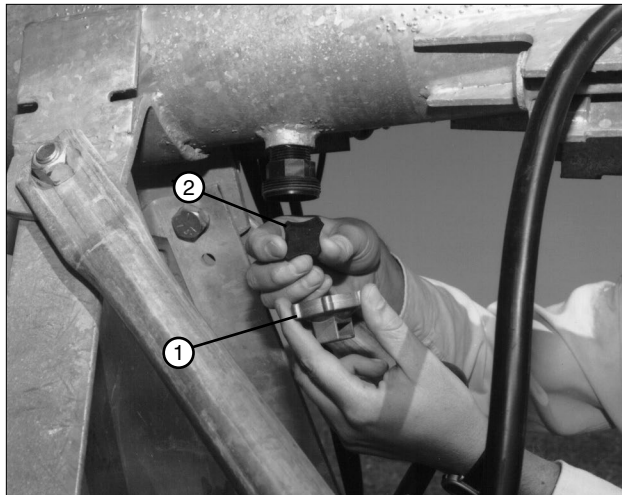

Figure 38-1 1. Drain
1. Remove span pipe drain and seal. Mark the drain side of seal for reference later. Clean sand and debris from the drain. See figure 38-1.